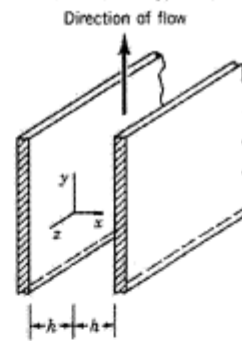

FIGURE P6.89
6.89 A viscous, incompressible fluid flows between the two infinite, vertical, parallel plates of Fig. P6.89. Determine, by use of the Navier-Stokes equations, an expression for the pressure gradient in the direction of flow. Express your answer in terms of the mean velocity. Assume that the flow is laminar, steady, and uniform.